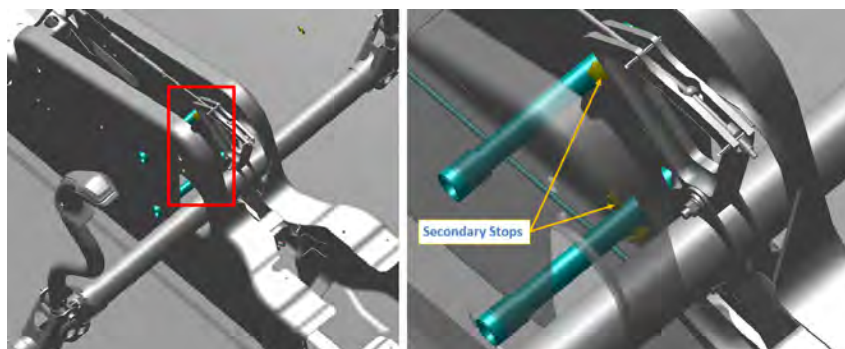

FIGURE 9-38
- c. Verifying that the primary pitch stops (located in vertical tail) contacts prior to the secondary stops. See Figure 9-38.
23. Adjust the bolt on the secondary stops as needed to achieve contact when specified force is applied. See Figure 9-38. If the secondary stops get contacted before the primary stops, not achieving the elevator travel limits, it is acceptable to remove the bolt on the bottom secondary stop.